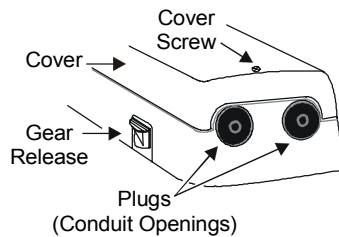

Figure 10: Location of the Conduit Openings
2. Push the plastic conduit plug out of the conduit opening with fingertip. (See Figure 10.)